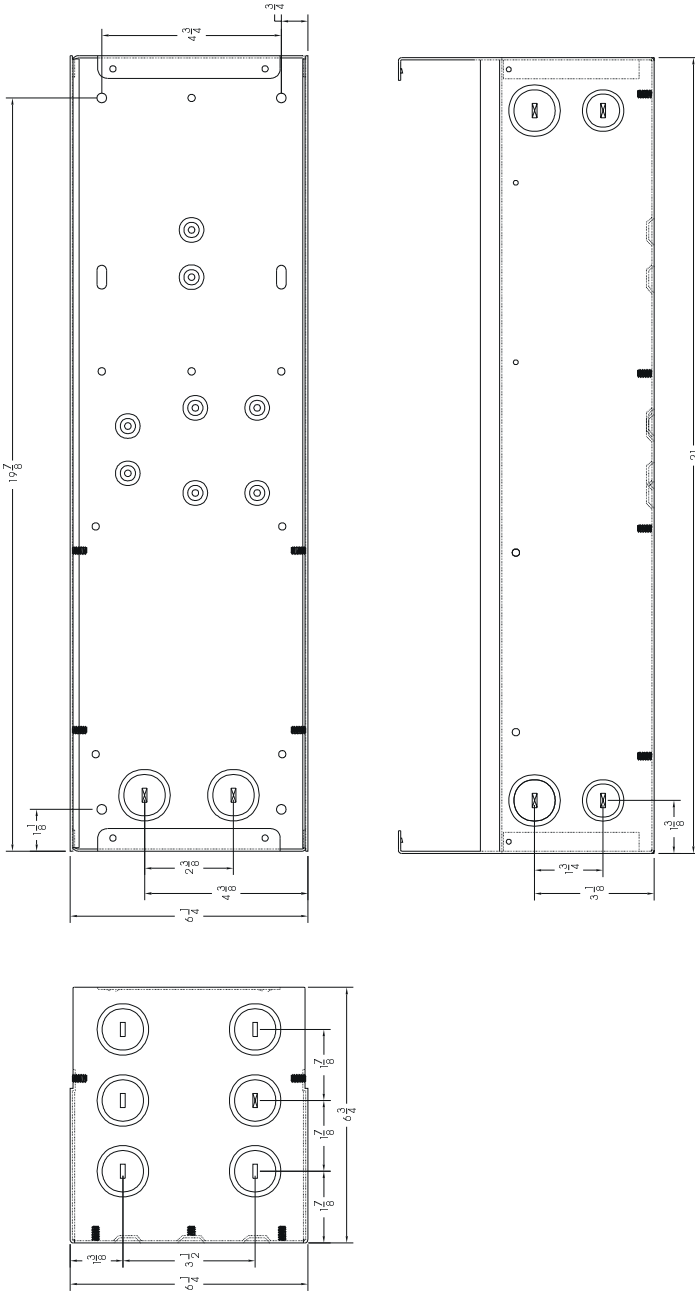

Figure 3
- Measure out the four mounting screw holes according to Figure 3.